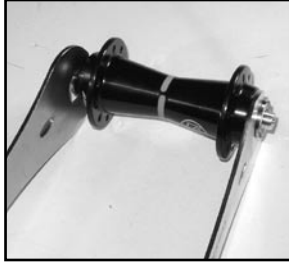

Fig. 2H
1. Remove one of the threaded axle end caps (Fig. 2H) by loosening with the pair of 17mm cone wrenches.